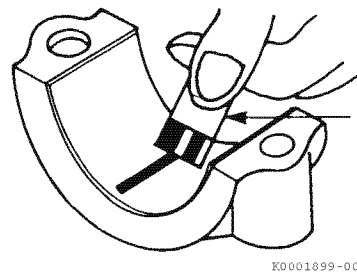

Figure 6-49
7. Compare the width of the flattened PLASTIGAGE (**Figure 6-49, (1)**) to the graduation marks on the package. The mark that most closely matches the width of the flattened PLASTIGAGE will indicate the bearing oil clearance. Record the measurements. See *Crankshaft* on page 6-6.